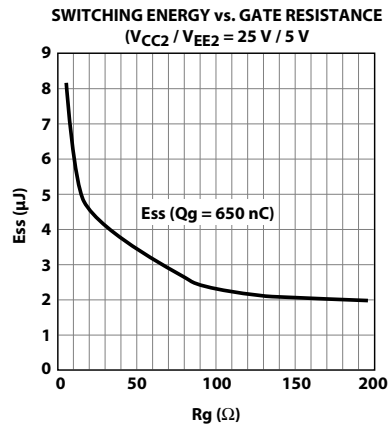

Figure 77. Switching energy plot for calculating average P_{switch} (for HCPL-316J output driving an IGBT rated at 600 V/100 A).
2. Calculate total power dissipation in the part referring to Figure 77. (Average switching energy supplied to HCPL-316J per cycle vs. R_G plot);
For $R_G = 10.5$, the value read from Figure 77 is $E_{SWITCH} = 6.05 \mu J$. Assume a worst-case average $I_{CC1} = 16.5 mA$ (which is given by the average of I_{CC1H} and I_{CC1L}). Similarly the average $I_{CC2} = 5.5 mA$.
$P_i = 90.8 \text{ mW}$, $P_o = 217.3 \text{ mW}$, $T_A = 100^\circ\text{C}$, and assuming the thermal model shown in Figure 77 below.